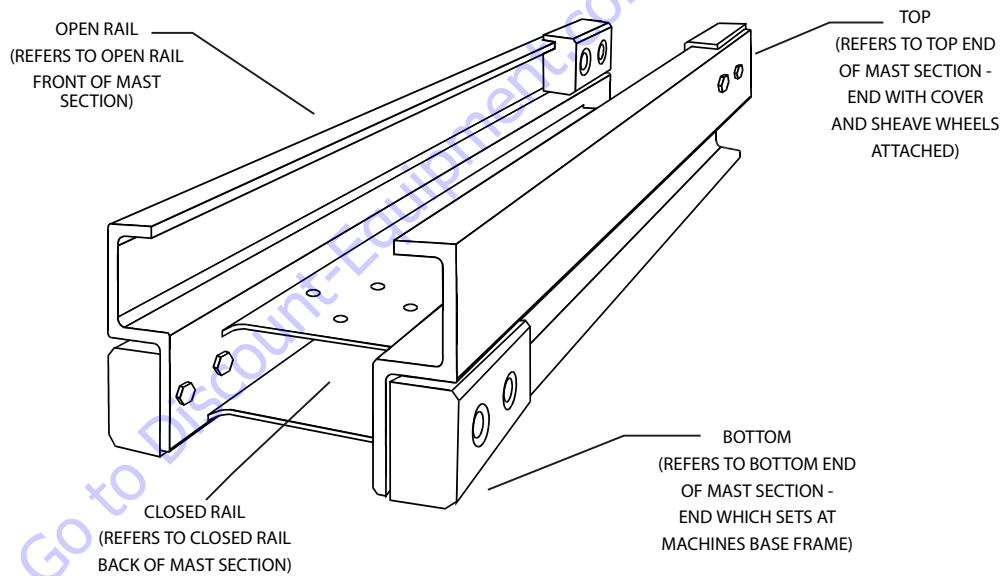

Figure 2-3. Mast Section - Assembly/Disassembly Reference
channels). Assemble the hardware to the bottom of mast section first, then slide this section out the top of previous section and assemble hardware to the top of mast, (*See Figure 2-3.*). Always install slide pad shims with slide pads inserted into the slide pad channels, (ends of mast sections even). Shim slide pads so that all side to side section movement is eliminated, but section can still slide in mast by hand.
(See Figure 2-3.)
1. Place mast section-1, rail (open) side up (See Figure 2-3.) on a clean, flat surface (preferably a table or work bench capable of supporting the weight of the entire mast assembly). Slide mast out over end of work surface far enough to allow access to the chain anchor attach holes at top of mast.
2. Locate the two (2) single (wide) chain assemblies. Lay out each chain assembly with anchor block end towards mast, and notched end of block down, (be certain floor surface is clean and free of any metal chips or debris which may stick to lubricated chains or lay chains in a clean bucket).
3. Insert chain adjustment into the top of mast section-1 by using spacer, chain equalizer and Keeper. Secure one end of the chain assembly with chain adjustment by using two (2) pin, cotter pin and washer. Insert threaded ends of chain assembly, through holes in attach bracket attached to bottom of mast section-2. Using two (2) 1/2 in. hex nuts onto stud threads on each chain. Chains will be adjusted later in assembly.